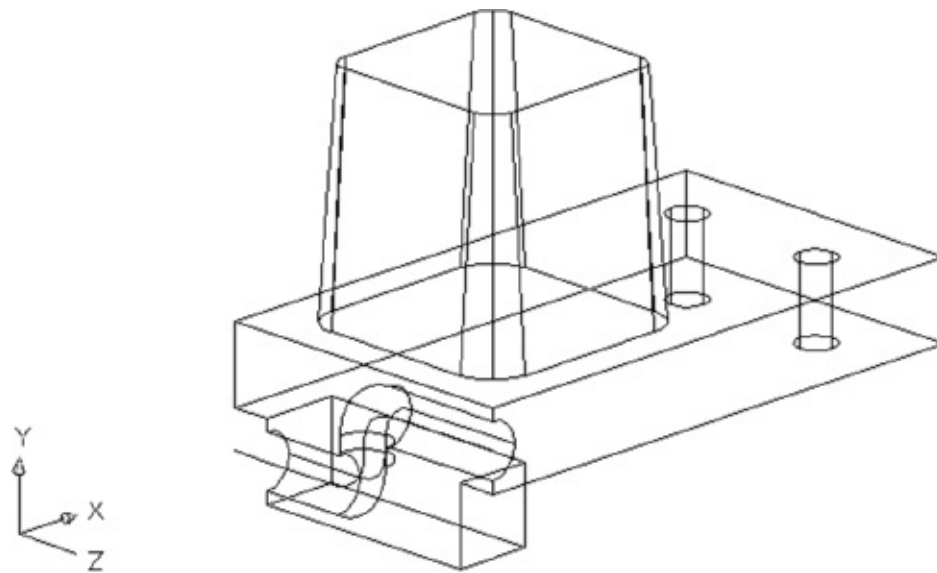

FIGURE 22.10 The solid after subtracting the curve
6. Press ↵. At the Select objects: prompt, click the curved solid and press ↵. The curved solid is subtracted from the square solid, and your drawing looks like Figure 22.10.